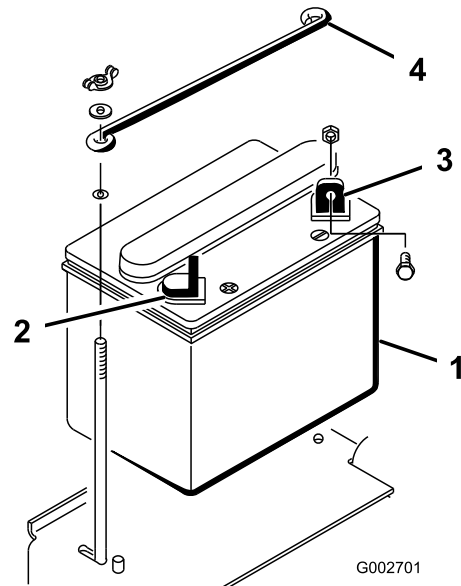

Figure 5
1. Set the battery in place, with the negative terminal positioned to the rear of the machine (Figure 5).